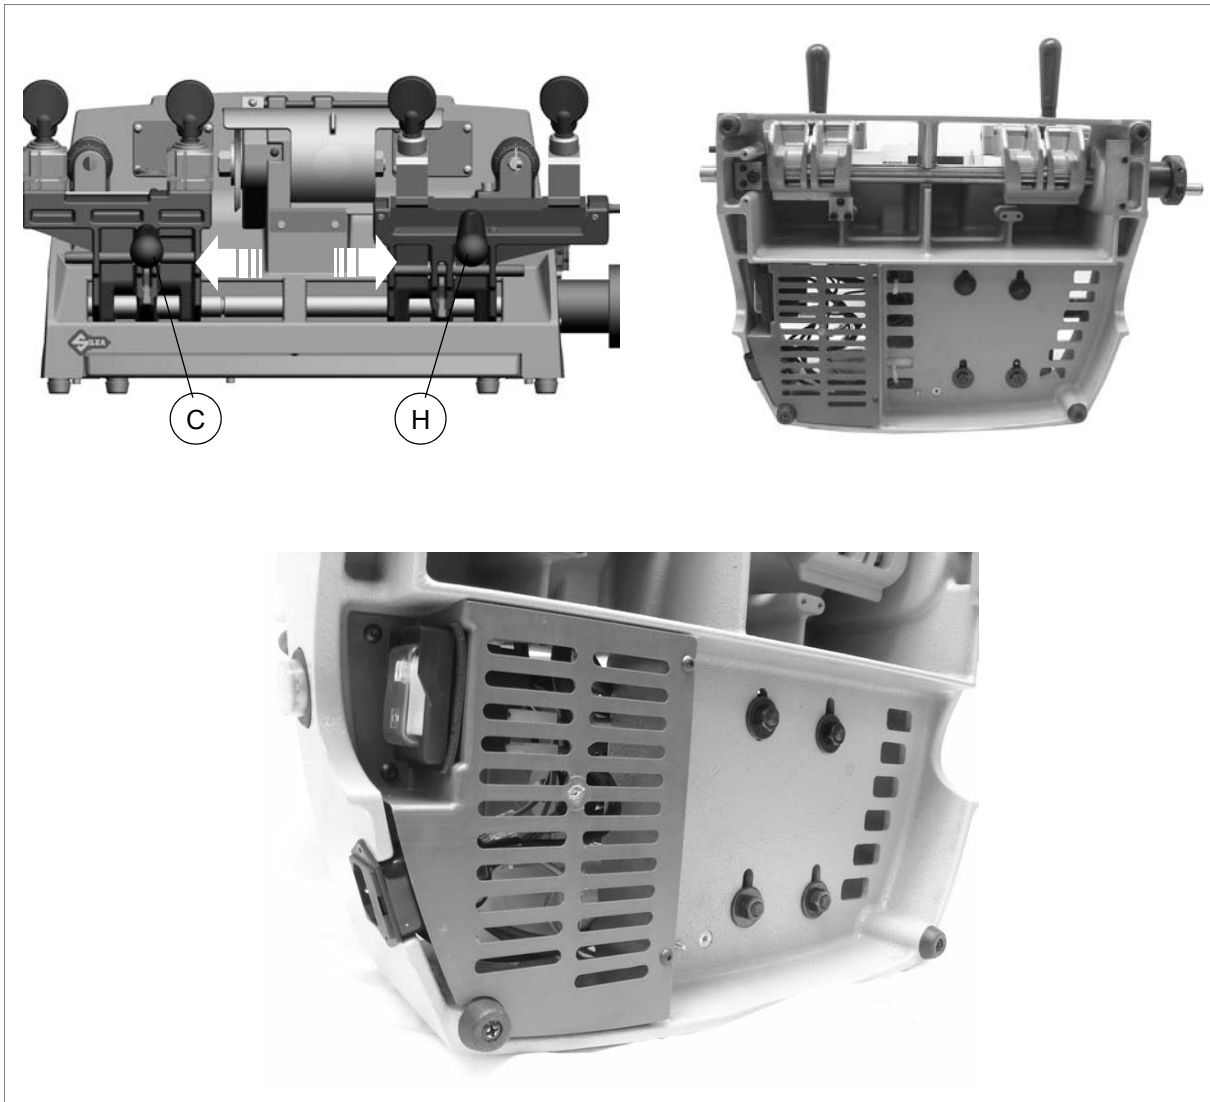

Fig. 47
- 4) Turn the machine onto its back firmly holding it on handles (C and H) (fig. 47).